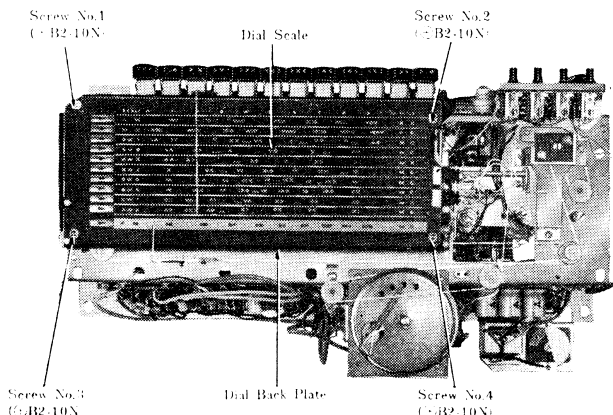

Fig. 3
**Replacement of Band Selector Pin (Refer to Figs. 3 & 4)**
1. Remove four (4) dial scale & back plate mounting screws, Nos. 1~4, as illustrated in Fig. 3.
**To Remove Band Selector Switch (Refer to Figs. 3 & 5~7)**